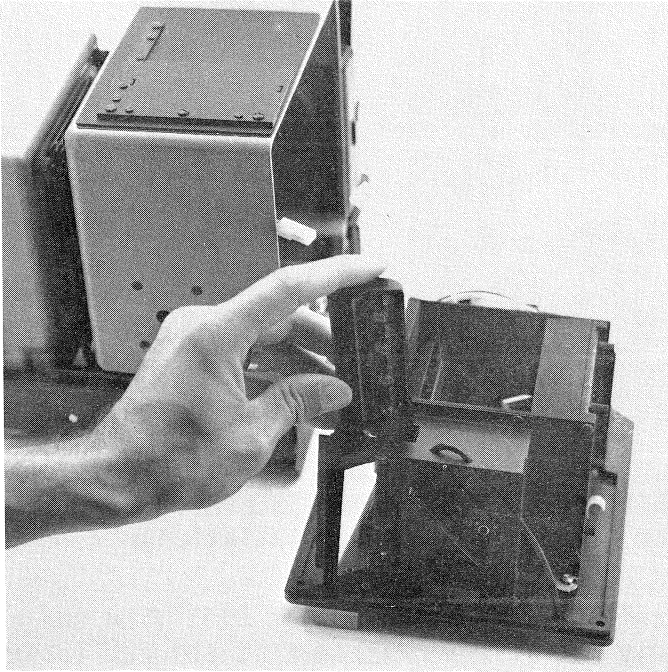

Fig. 2
- a. Slide the lamp housing assembly into the holder located next to the mirror assembly (see fig.2). Insert so that the bulbs are facing the mirror.